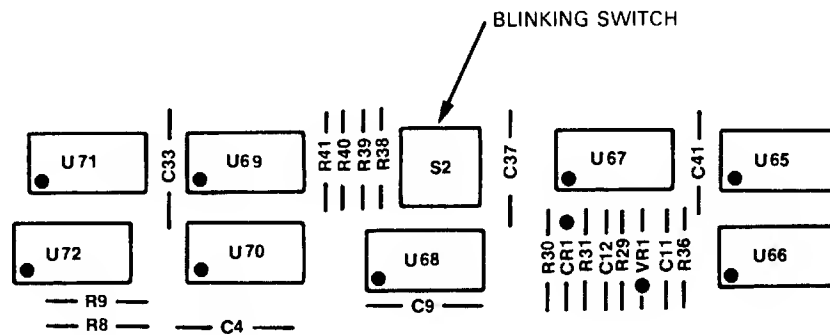

Figure 5-11. Blinking Switch Location on Input/Output Board
- e. Set Blink Switch A3S2 section 1 (figure 5-11) to "on" position.